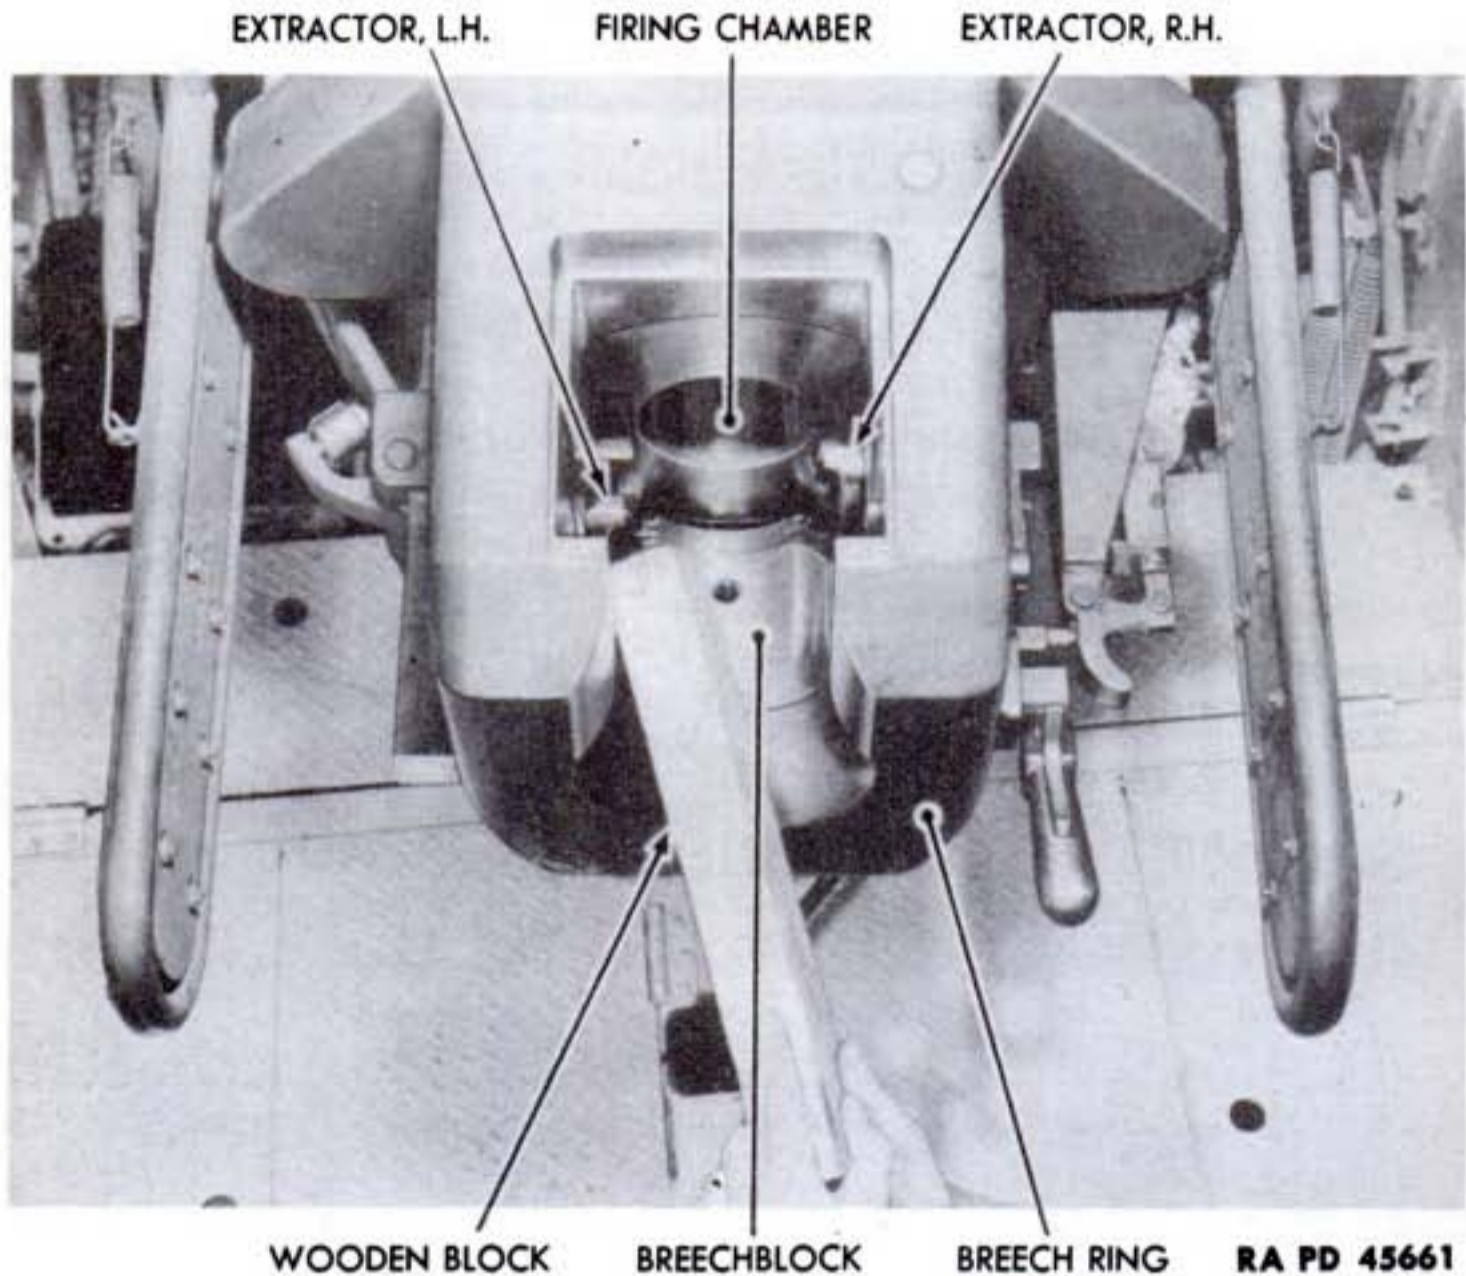
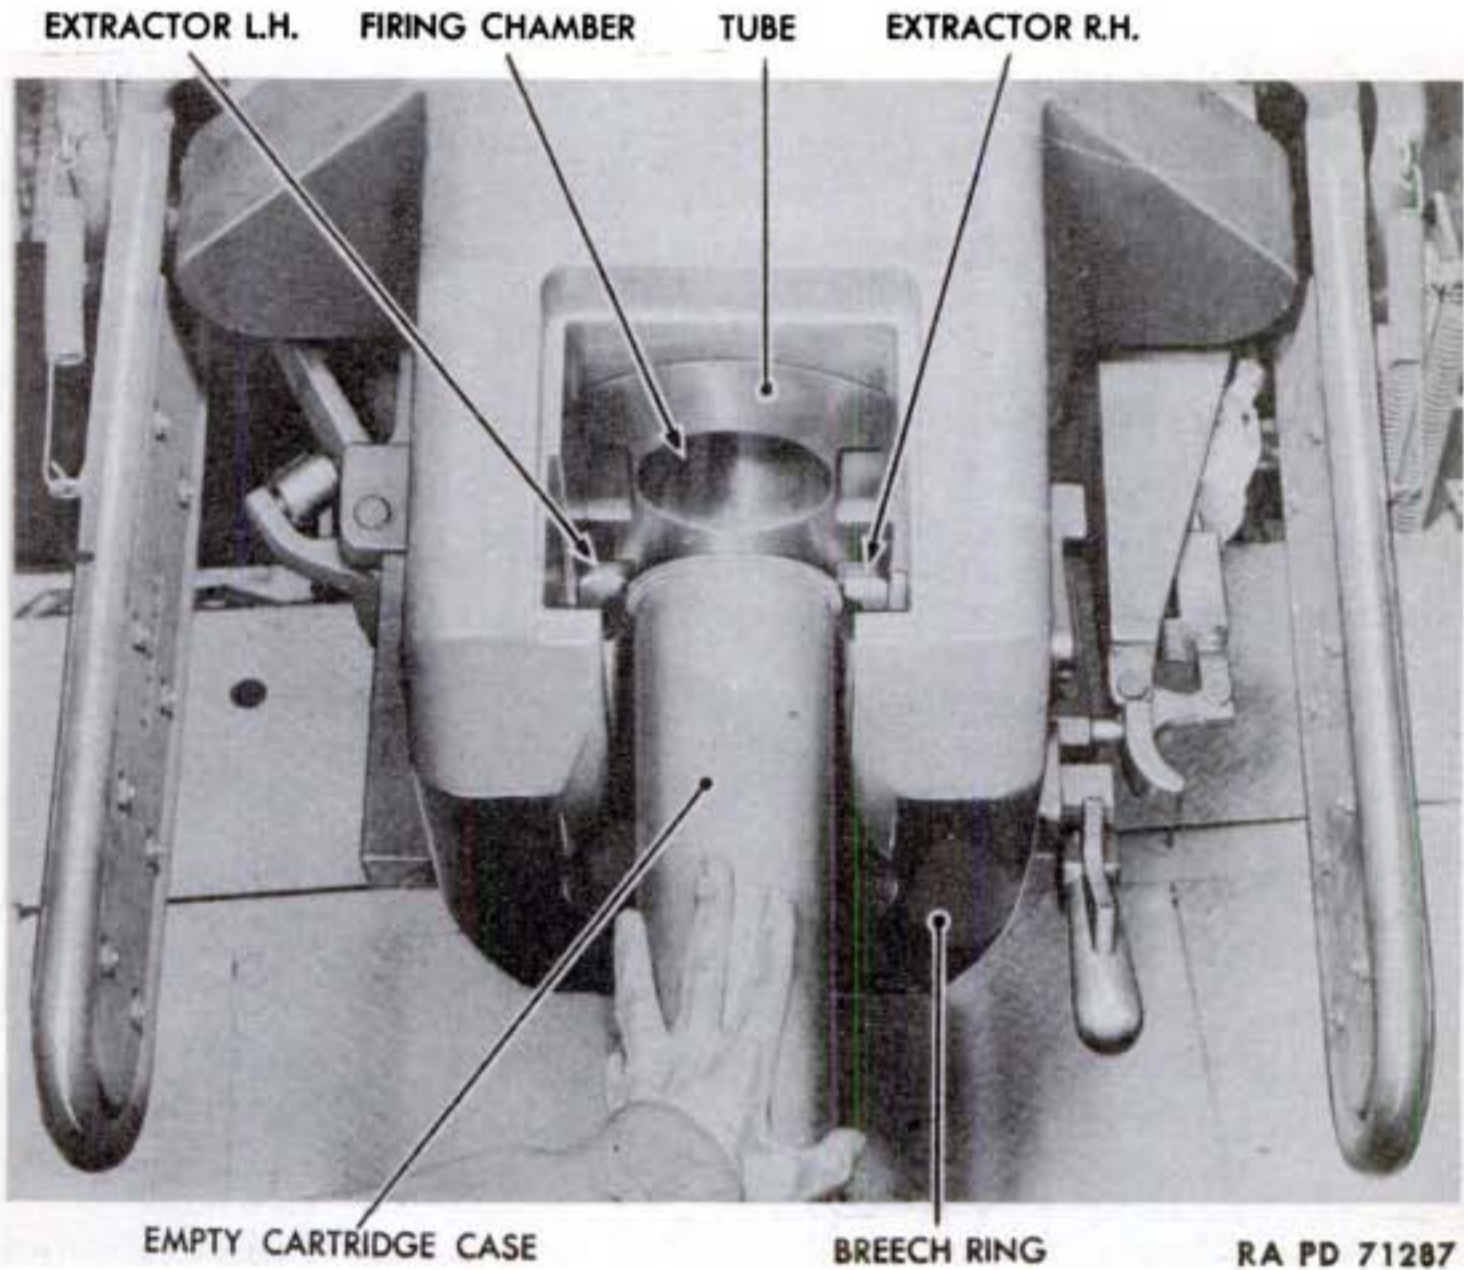

Figure 173—Manually Closing Breech—Wood Block
Figure 174—Manually Closing Breech—Cartridge Case
(1) When it is desired to close a breech without inserting a round in the firing chamber, it can be accomplished with either a block of wood (fig. 173) (about 2 x 4 x 12 in.) or with an empty cartridge case (fig. 174). *NOTE: Do not use the fingers to press on extractors, as possible injury may result.*
(2) Press on either one of the two extractors with a block of wood until the extractor is pushed forward into its unlocked position. Then press the opposite extractor forward until it is in its unlocked position and the breechblock will fly upward.